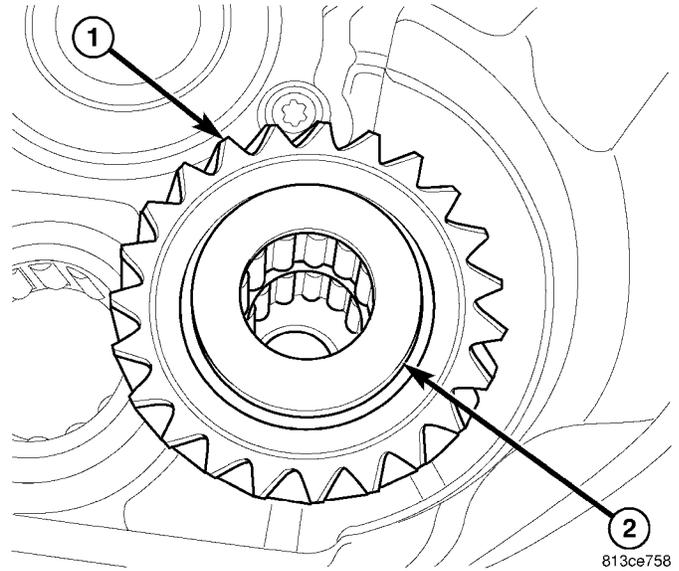

Fig. 47 IDLER GEAR THRUST WASHER
(4) Remove reverse idler gear (1) (Fig. 47) thrust washer (2).